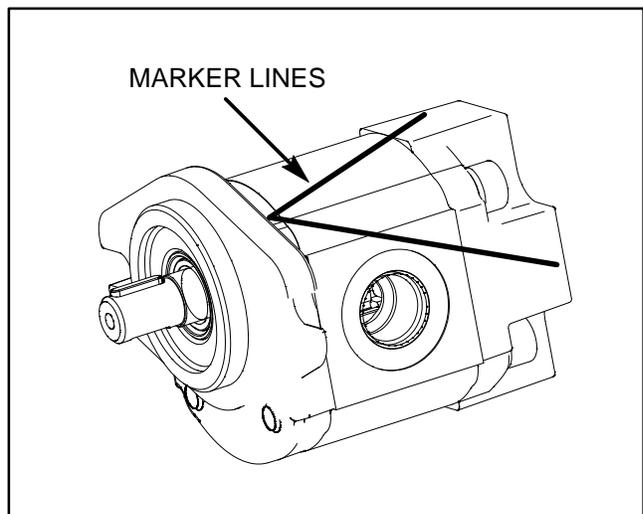

Figure 24
2. Use a marker to make a "V" across the front cover, body and rear cover for assembly purposes (Fig. 24).
4. Loosen four (4) socket head screws that secure the rear cover.